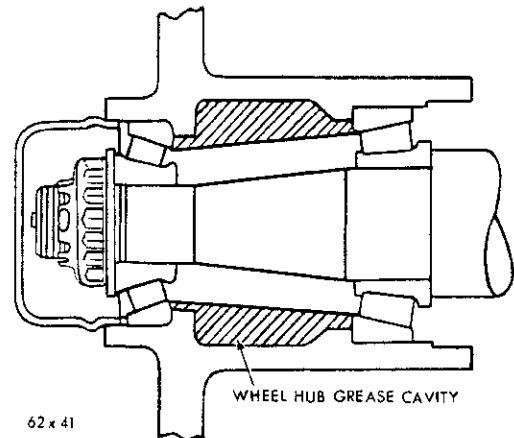

Fig. 8—Fill Cavity with Wheel Bearing Lubricant
(2) Fill the hub cavity with wheel bearing lubricant, as shown in Figure 8. Lubricant should be even with inner diameter of bearing cups.
(3) Force lubricant between bearing cone rollers or repack with a suitable "Bearing Packer".
(4) Install inner cone and a new oil seal with lip of seal facing inward. Use a wood block to drive seal flush with the end of the hub.
(5) Clean the spindle and install the wheel, hub and drum.
(6) Install the outer bearing cone, flat washer and adjusting nut.